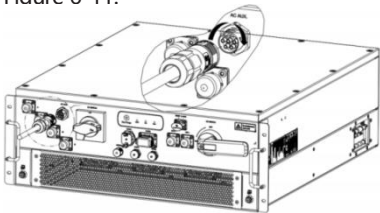

Figure 6-11 Schematic diagram of AC AUX
Step 3: Insert the connected plug into the AC AUX. socket and turn it clockwise until the locking buckle pops up, as shown in Figure 6-11.